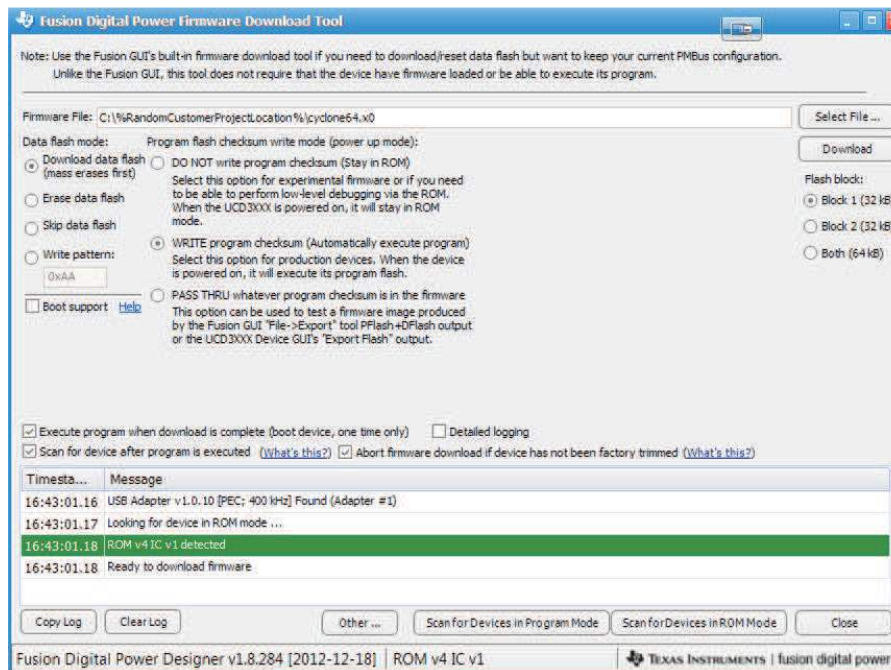

Figure 6. Firmware Code Downloading
4. Click Firmware Download; then a new window appears as shown in Figure 6. Click Select File and browse an intended firmware code file with file extension .x0, for example, cyclone64.x0; then click Download. The firmware of cyclone64.x0 is being downloaded to the device UCD3138064 on the board of UCD3138064EVM-166. When prompted, click yes to complete the download. Click Close to exit the download window.
Erase the downloaded firmware codes from UCD3138064 flash memory can be made with the below steps based on Figure 6.